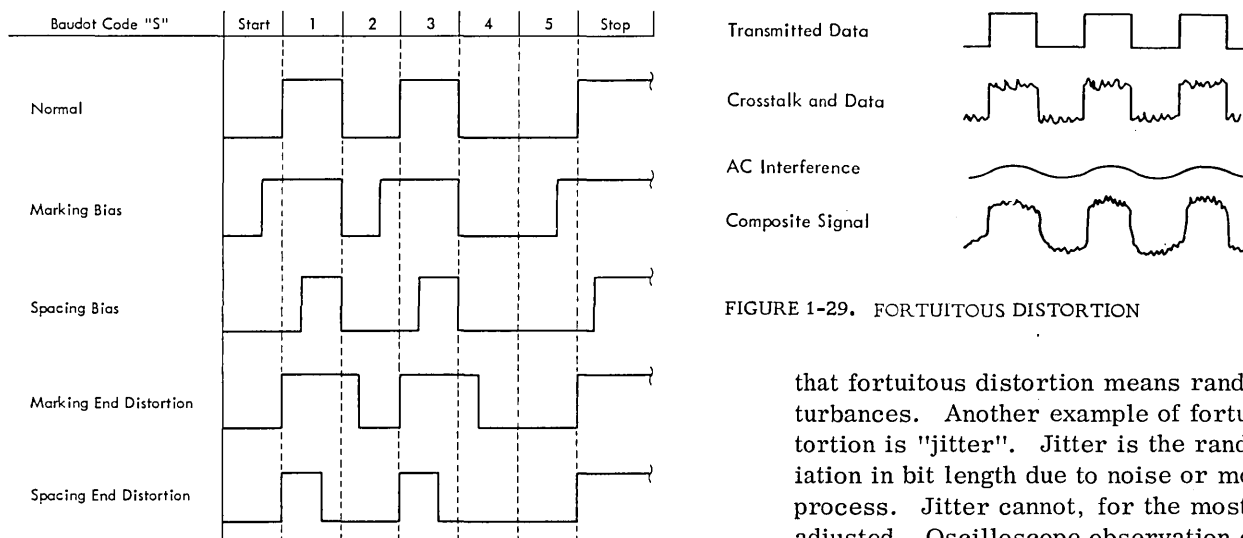

FIGURE 1-27. TELEGRAPHIC SIGNAL DISTORTION
1. **Bias Distortion.** In telegraph applications, bias distortion is characterized by Mark or Space pulses which are consistently too long or too short. This means that the total time allocated to one Mark and Space bit never changes; only the length of the Mark or Space element changes. If an alternate Mark/Space pattern were transmitted with an equal amount of time between transitions, the received signal will probably have a percentage of marking or spacing bias. This may be caused by the characteristics of the terminal, data set, or by an unequal rate of transmission. When the Mark pulses appear lengthened, the Space pulses will be shortened. This condition is called Marking Bias. When the Mark pulses appear shortened, the Space pulses will be lengthened. This condition is called "Spacing Bias" (Figure 1-27). Bias distortion is measured as a percentage. For example, if the marking pulses of a particular character are 20 percent longer than they should be, 20 percent marking bias exists.